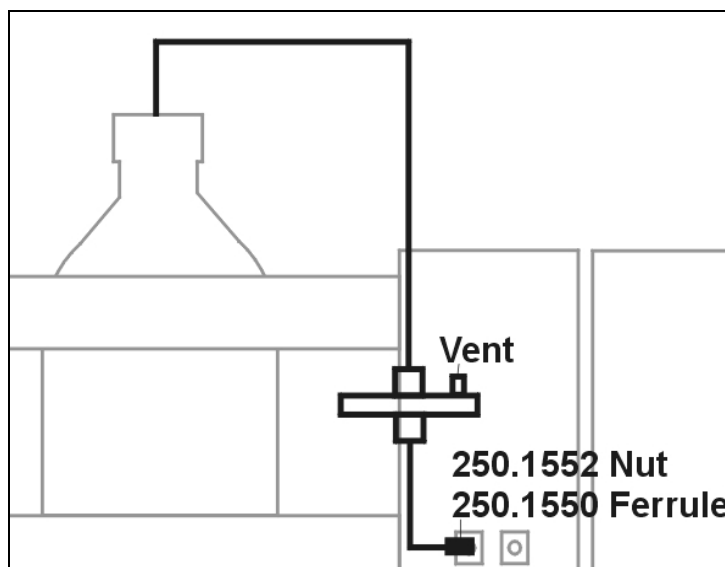

Figure 3 Assembly A: Connection between bottle - degasser.
1. **Assembly A, OR 100 degasser inlet assembly (p/n 180.0204):** Place the end of the FEP tubing (inlet) in a mobile phase bottle filled with demi-water as depicted in figure 3. Open the filter (vent) and draw the mobile phase through the tubing using a syringe until the filter is completely wetted and the upper compartment is air bubble free. Close the vent. Connect the syringe to the outlet tubing and gently draw the plunger to fill the outlet tubing with solvent. Remove the syringe and hold the outlet tubing well below the liquid level in the mobile phase bottle. The outlet tubing should spontaneously siphon solvent. If this is not the case consult the trouble-shooting section in chapter 3.